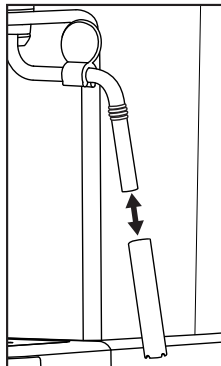

Figure 1
- 1) Place an empty container under the milk frother ⑩.
- 2) Immediately after use, turn the steam control ⑦ to the "☕/💧" position and allow the steam to escape for a few seconds.
- 3) Turn the steam control ⑦ off (as far as it will go in the direction "●"), switch the appliance off and remove the plug from the mains power socket.
- 5) Pull the casing of the milk frother ⑩ off (Figure 1) and clean it thoroughly in warm water.
7) Push the casing back onto the nozzle (Figure 1).